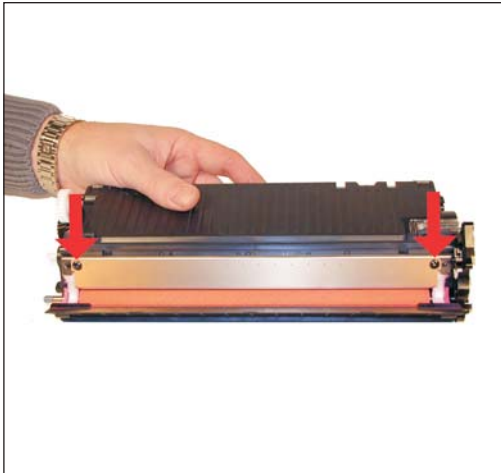

Figure 63
37) Remove the two screws and doctor blade. There is a long tab on the non gear side, pick up the blade from the gear side, and work loose. See Figure 63